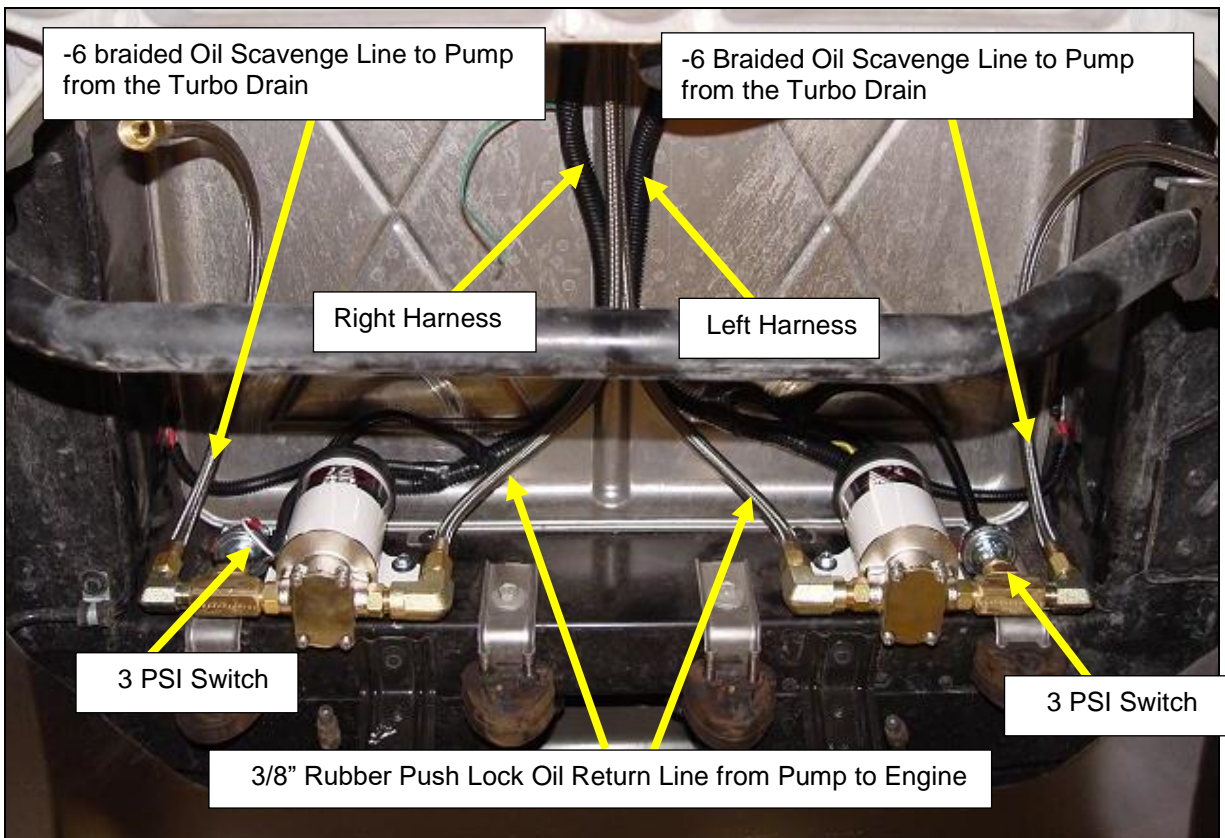
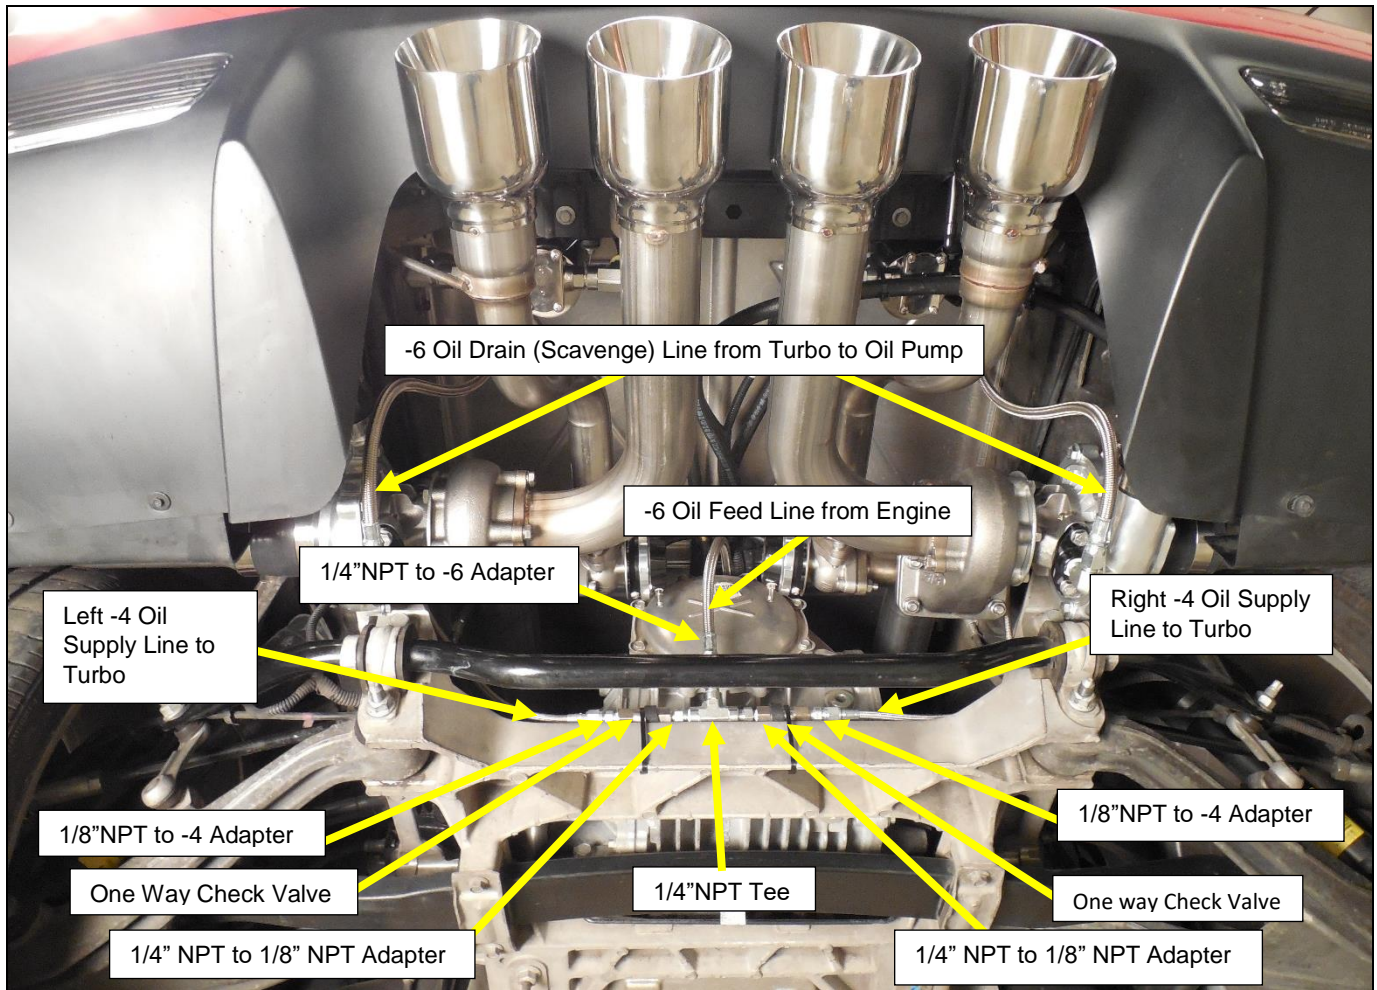

Figure 41
Figure 50
1. Install the short -6 braided lines to the -6 90° fitting on each outboard side of the oil pump closest to the frame rail (**Figure 41**). **This will be the scavenge side of the pump “pulling” oil from the turbo.**
2. Install the straight -6 push lock fitting with the yellow collar on to each -6 90° fitting on the inboard side of each oil pump (**Figure 41**). **This is the discharge side of the pump “pushing” oil back to the engine.**
Assembling the Oil Feed Tee and Flow Check Valves – Figure 50 (next page)
3. Install a One Way Flow Check Valve at each 1/8" NPT male fitting previously installed on each side port of the tee fitting. **Fig.50 (See illustration next page)**
1. Install the short braided -6 line from the oil pump inlet fitting (this is the fitting on the outboard side of the oil Pump that has the 3 psi switch installed) to the -6 fitting on the bottom of the Turbo. See **Figure 41 (previously)** and **Figure 50** (below).